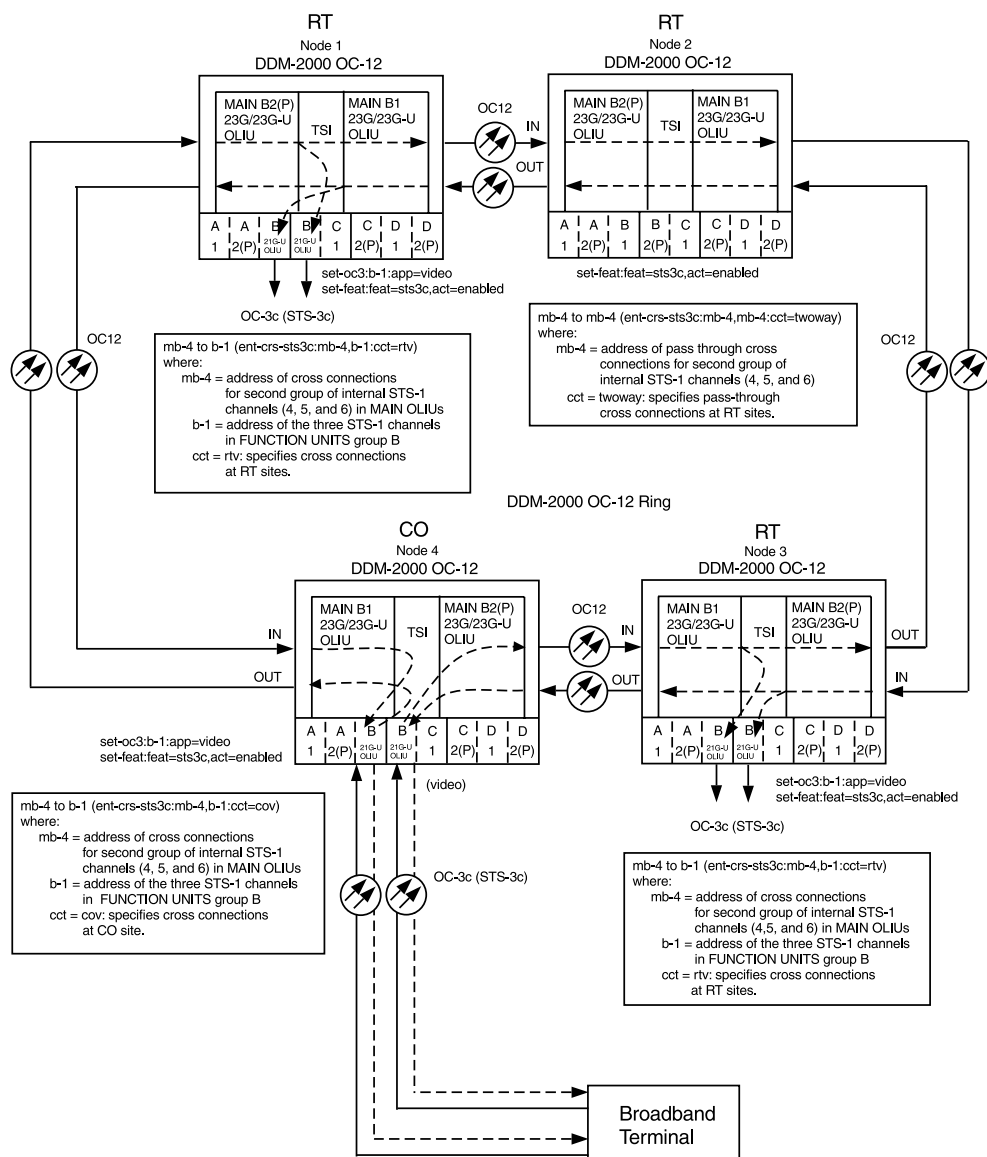

Figure 4. Example of Cross-connections for Video Broadcast Access via OC-12
Cross-connections consist of "drop and continue (rtv, not dc)" cross-connections at RT nodes, pass-through connections at non-terminating nodes, and CO cross-connections (cov). For example in Figure 4, drop and continue connections are made at Nodes 1 and 3. Pass-through cross-connections are made at Node 2. And CO cross-connections are made at Node 4. STS-3c circuits continuing through other networks require cross-connections be made in all interconnected networks, including other DDM-2000 OC-12 rings and FT-2000 OC-48 rings, as required.
9. At all nonterminating pass-through nodes in the network, use the **ent-crs-sts3c:** command to provision pass-through connections. (For example in Figure 4, to make the STS-3c pass-through cross-connection at Node 2, use the **ent-crs-sts3c:mb-4,mb-4:cct=twoway** command.)
10. At the CO node of the circuit being established, use the **ent-crs-sts3c:address:cct=cov** command to make the terminating cross-connections (For example at Node 4 in Figure 4, use the **ent-crs-sts3c:mb-4,b-1:cct=cov** command to make cross-connections.)
11. At the RT terminating node site(s), use the **ent-crs-sts3c:address:cct=rtv** command to make proper cross-connections. (For example, in Figure 4 at Nodes 1 and 3, use the **ent-crs-sts3c:mb-4,b-1:cct=rtv** command to make cross-connections.)